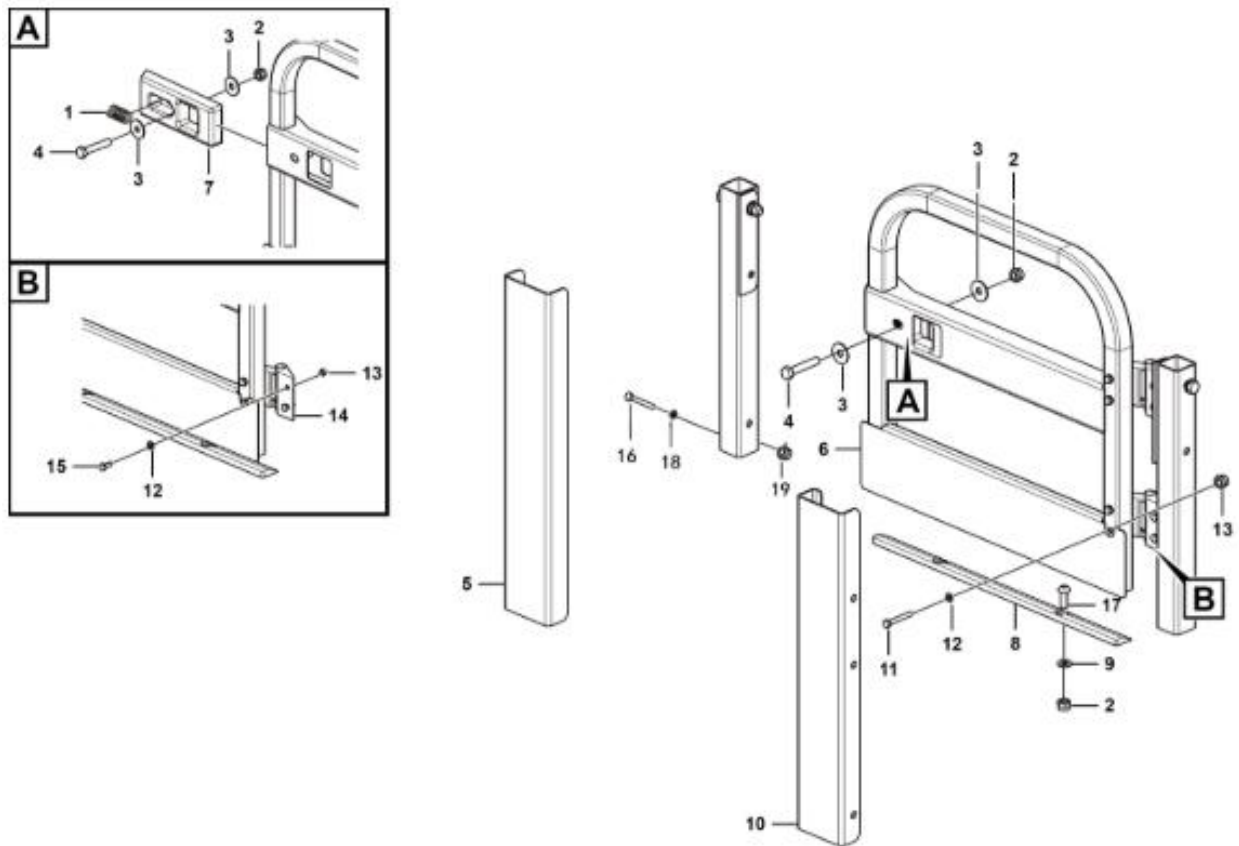

Fig. 3.14 Removal and installation of semi-swing gate
1. As shown in Fig. 3.14, remove the fasteners of the fixing part 6 of the door, remove the spring hinge of part 14, and slowly remove the swing gate from the guardrail.